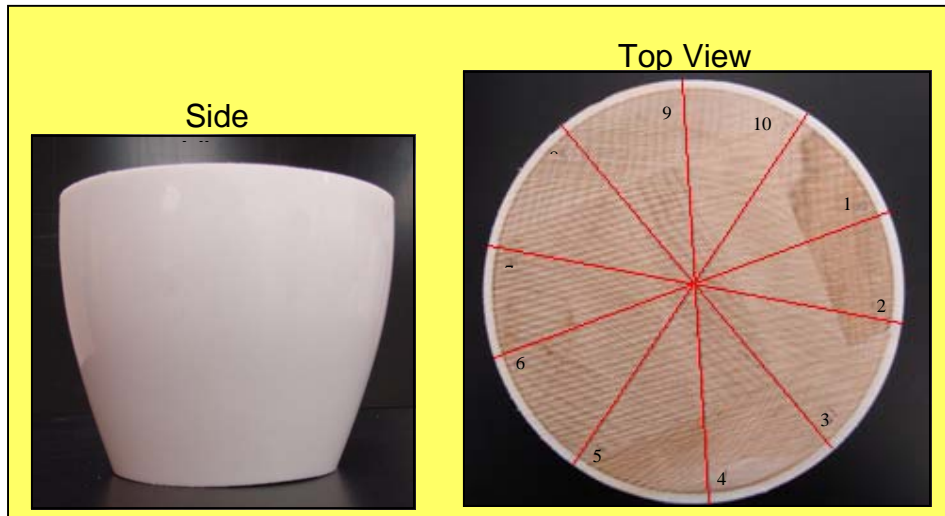

Figure 2 - Side and top view of the lower ball zone segment of the bowling pin. The top view shows the 10 divisions drawn on the segment for later analysis.
- Set the lower ball zone segment of the bowling pin on a work surface and draw 10 “pie slices” on the top of the segment and number each section 1-10 with the pencil and straight edge as seen in figure 2.